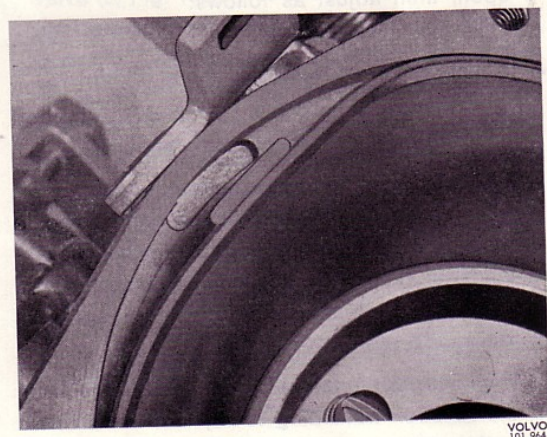

Fig. 104 Diaphragm in carburettor housing
4. Move the air valve down and fit in the rubber register as shown in Fig. 104. Fit the cover and fill with damper oil.